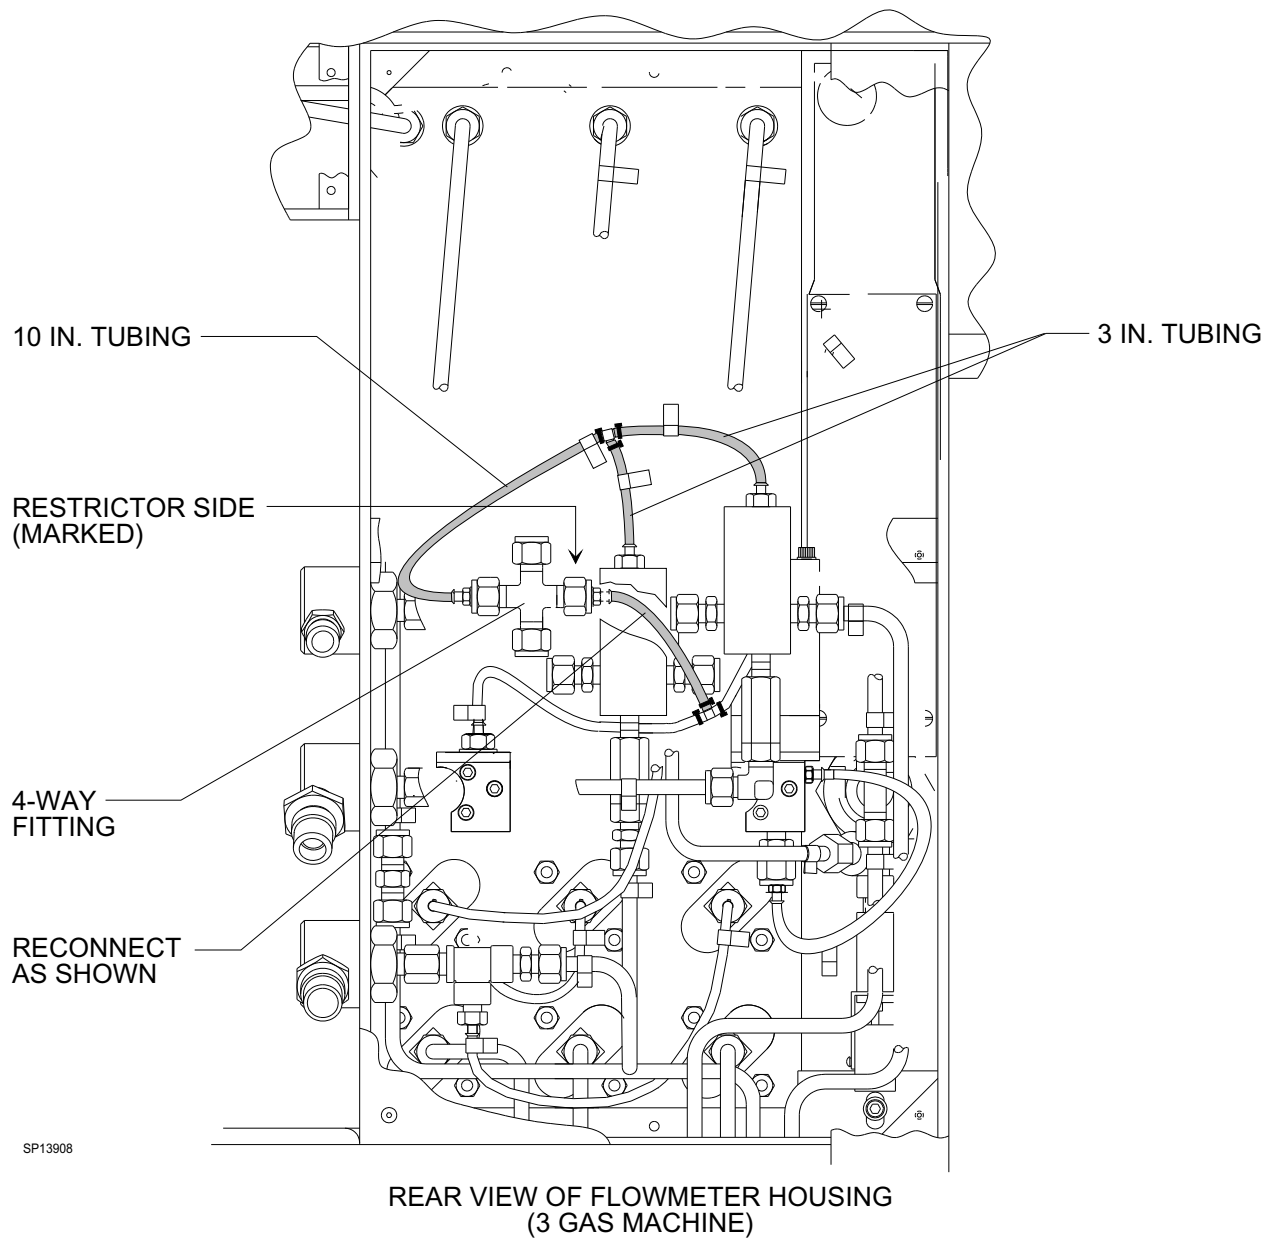

Figure 8: FLEX TUBING CONNECTIONS
30. Remove the flow restrictor from the right side port of the 4-way fitting (as viewed from the back of the flowmeter housing), and replace it with restrictor P/N 4110738-007 (brown). See Figure 8.
56. Connect the flex tubing between the OFPDs and the O₂ supply as shown in Figure 8. Tubing lengths are shown in the illustration. Use press-on hose clamps at the OFPDs and 4-way fitting, and tie straps at the nylon tee fittings.